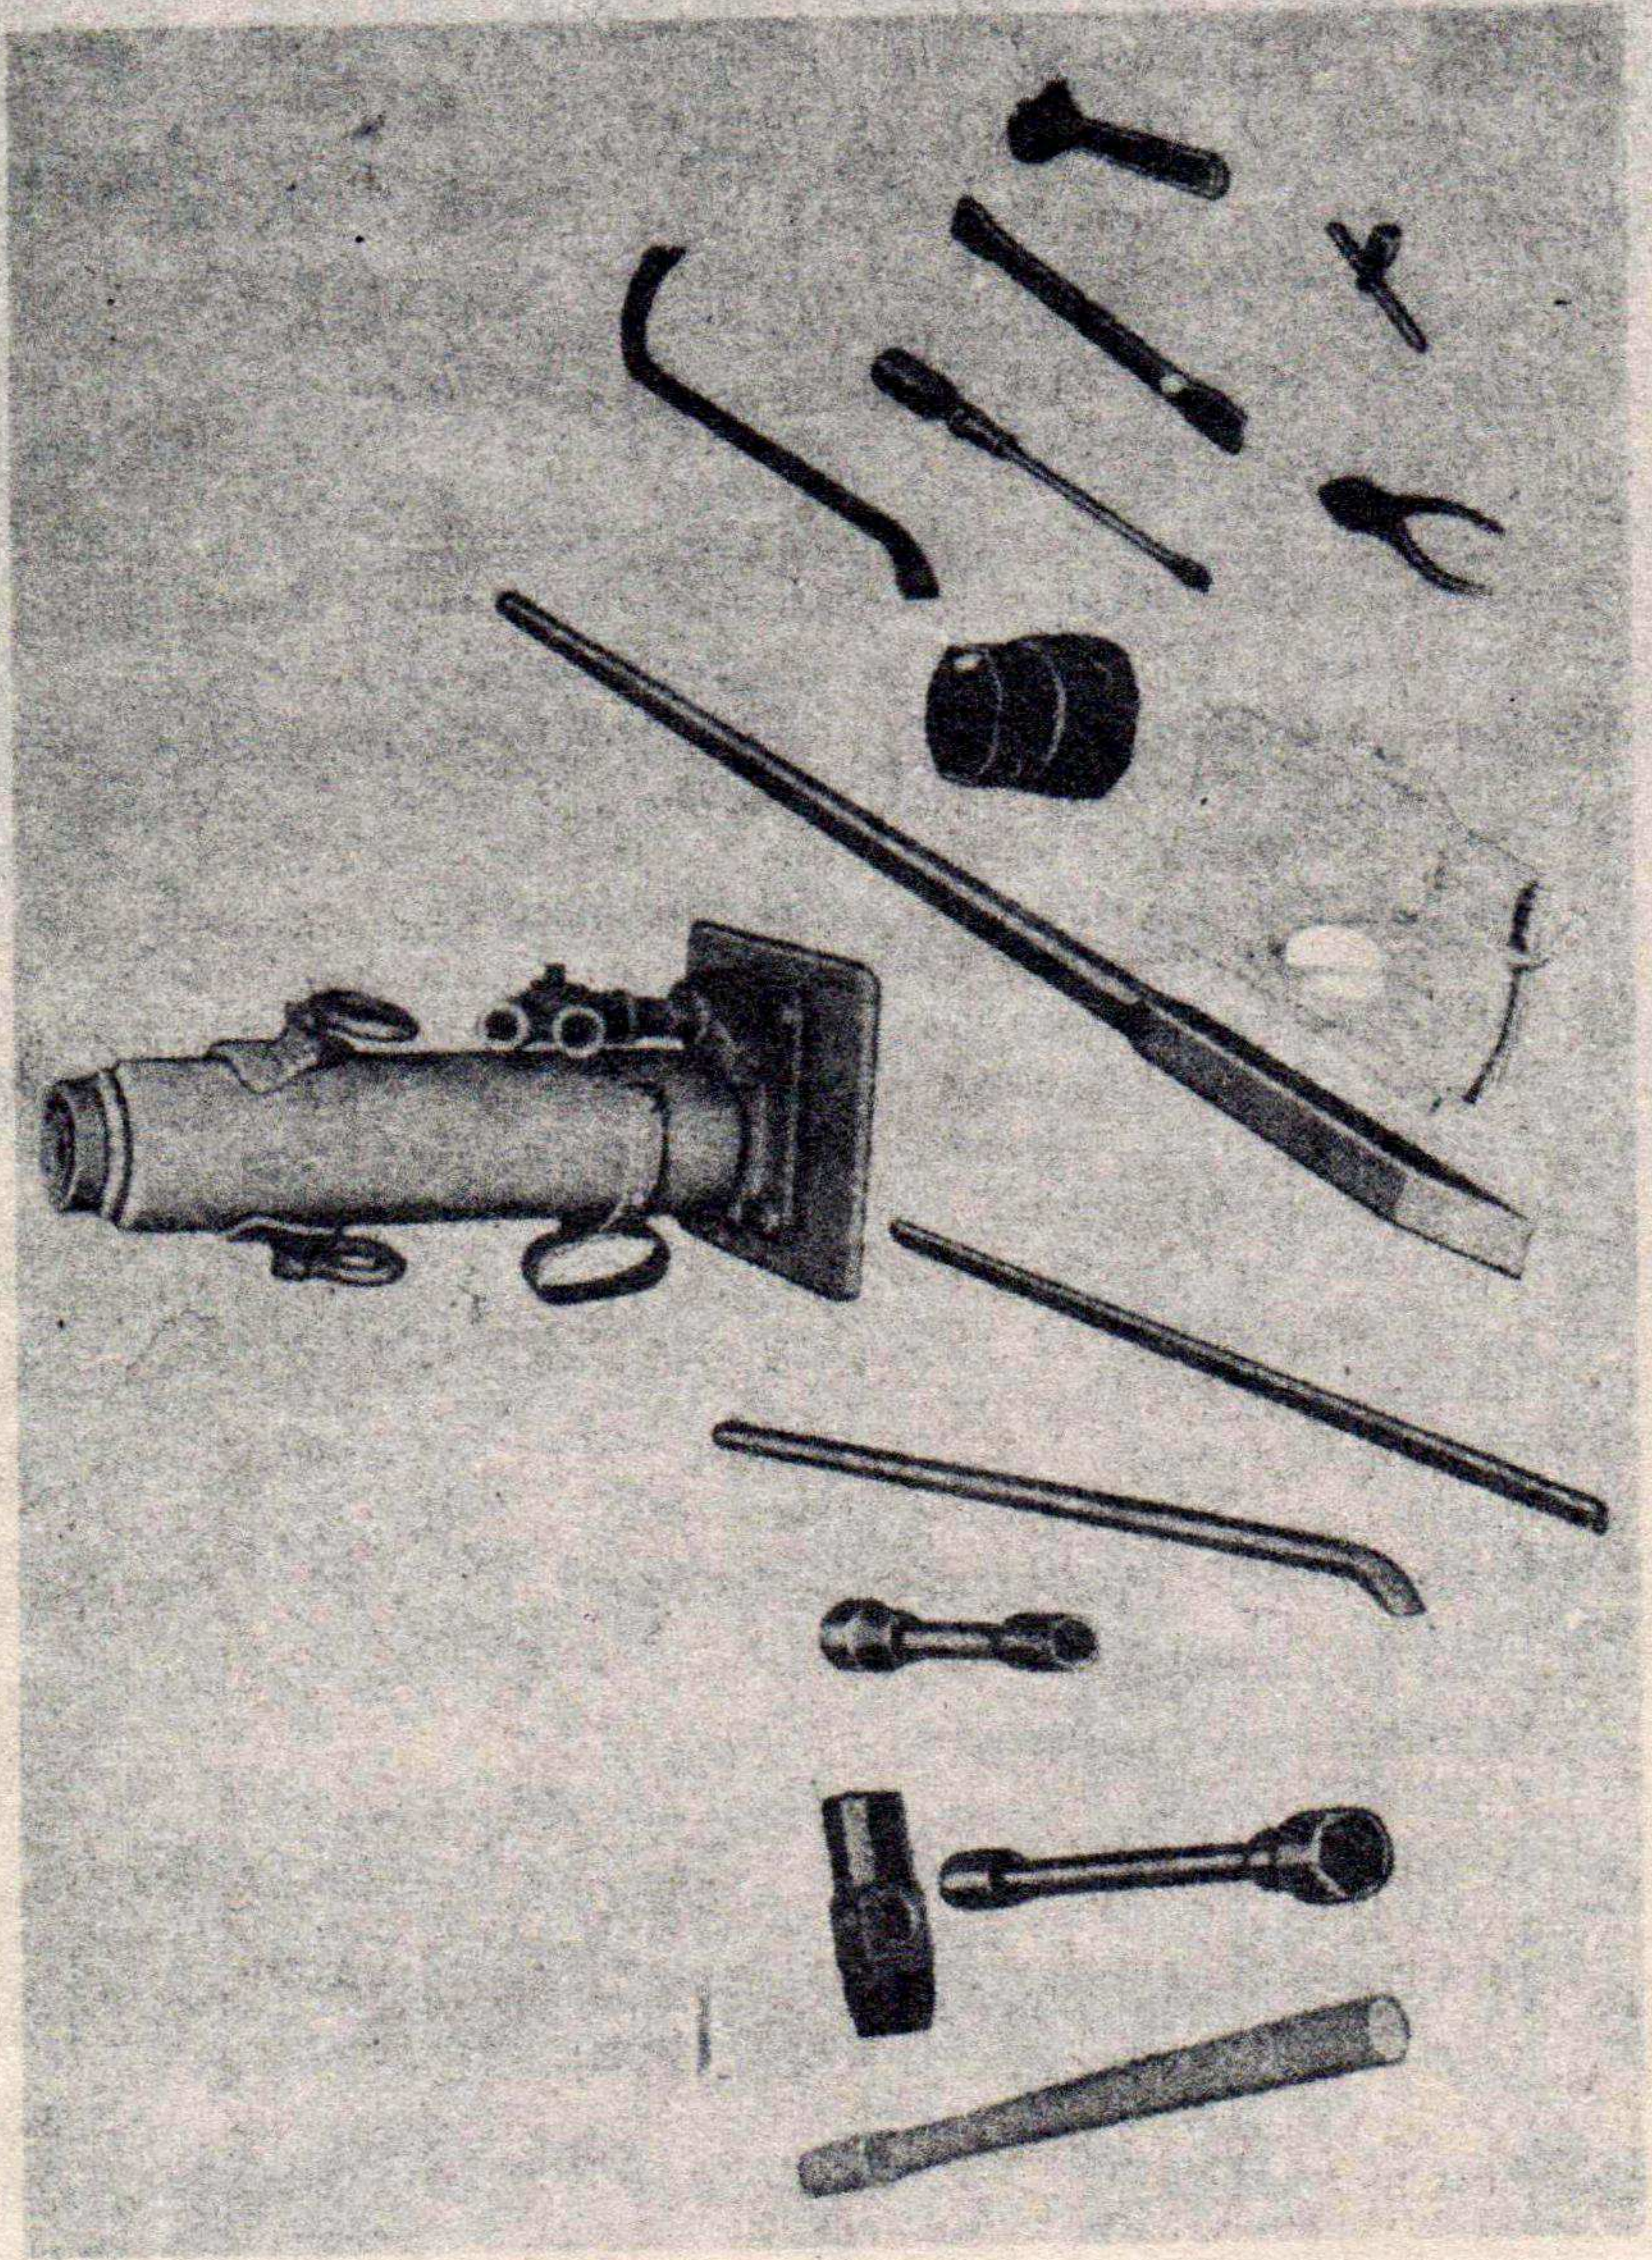

Figure 5. Tools
1. LIST OF TOOLS: (Fig. 5)
The small socket wrench (Fig. 5) is provided for the removal and replacement of hydraulic grease fittings located in counter bores in the various pins.